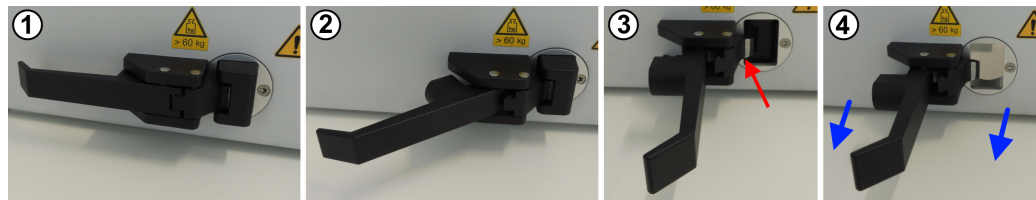

Figure 7-4: Manual opening procedure
1. Open the handle from position 1 to 2 in Figure 7-4.
2. Further open the handle from position 2 to 3 in Figure 7-4.
2. Ensure that the handle is in fully opened position at an angle of 90° from the door, as in pictures 3 and 4 in Figure 7-4.
4. Move the handle from position 3 to 2 in Figure 7-4.
5. Further close the handle from position 2 to 1 in Figure 7-4.